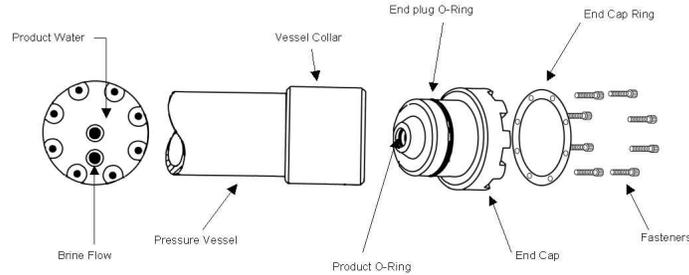

Figure 6.1 - Pressure Vessel End Plug Assembly Callout.
Step 1: Inspect all O-Rings; product O-Rings, end plug O-Rings, and Brine seal. Replace O-Rings if there is visible damage. The product water O-Rings are internal O-Rings, inside the center hole in the end cap. Refer to Figure 6.1.